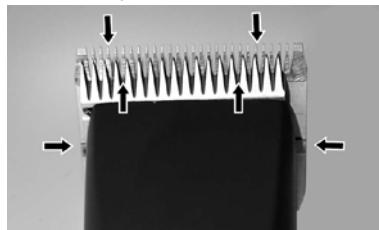

Fig. 22
To receive good clipping results and to increase the durability of the clipper and the clipperhead, it is necessary to apply a thin oil coat between top and bottom blade (fig. 22).
- Lubricate the blades sufficiently during the clipping (at least every 15 minutes), so that they do not drain (fig. 22).
The blades must be oiled before, during and after every use. When the blades of the clipper are leaving stripes or are running with reduced speed, this is a signal that oil is required. Place a few drops of oil ahead and laterally on the clipper blades (see arrows in fig. 22). Wipe off the excessive oil with a smooth, dry cloth. Lubrication sprays do not have sufficient oil for a good lubrication, but serve for cooling the blades. Immediately change damaged or crenated blades to avoid injuries.